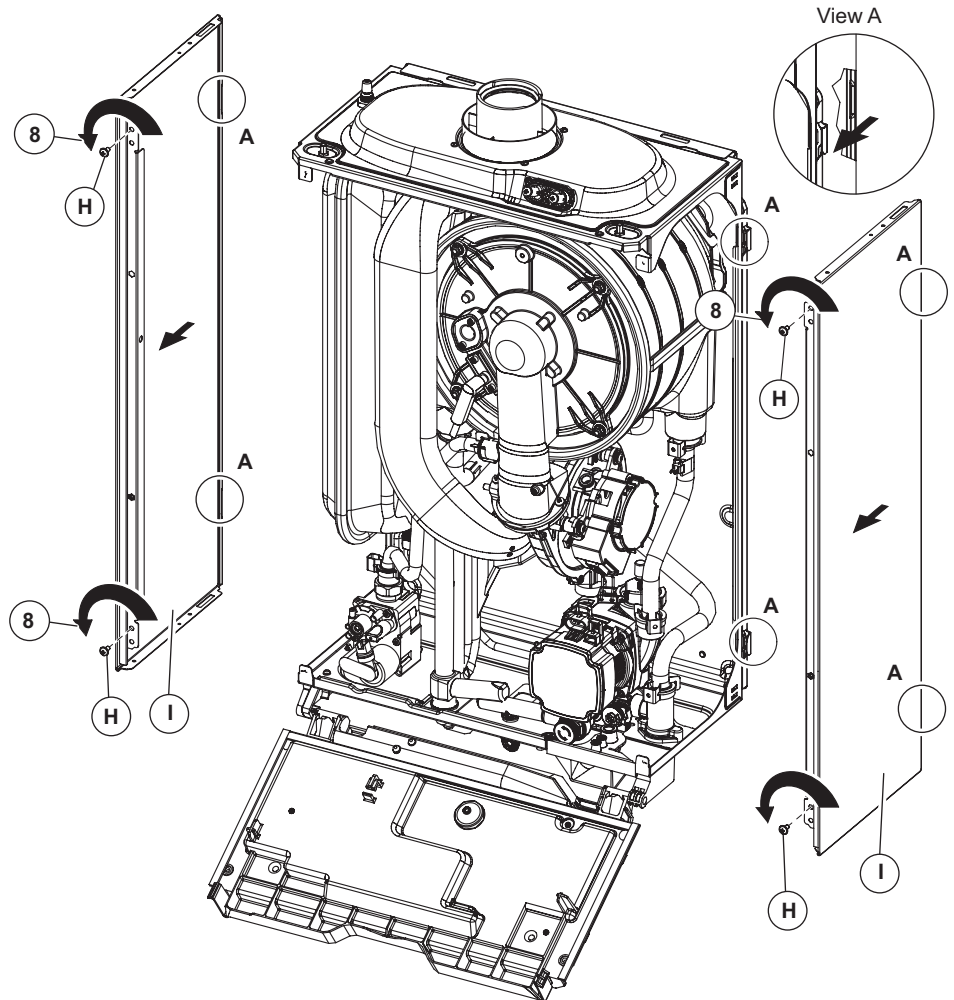

Fig. 7.4
Side panels - Fig. 7.4
8. Remove the screws 'H' securing the side panel 'I'. Lift the side panel and pull it forwards unhooking it from the rear panel (view 'A' in Fig. 7.4) Lower the panel out and away from the top cover.